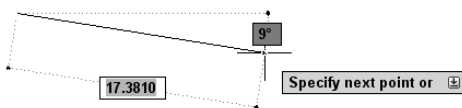

**Figure 4-5:** The so-called dimension input tooltip shows distances and angles.
**Dimension Input section.** The Enable Dimension Input Where Possible check box is selected by default. This section has nothing to do with dimensions! Instead, it refers to distances or lengths as well as angles, as opposed to points or coordinates. With this check box selected, after you indicate a first point, such as the start of a line or the center of a circle, you see a dimension tooltip that shows the length of the line segment or radius of the circle, as shown in Figure 4-5. You specify the length by typing in this tooltip. If you uncheck the check box, you don't see this dimension tooltip.